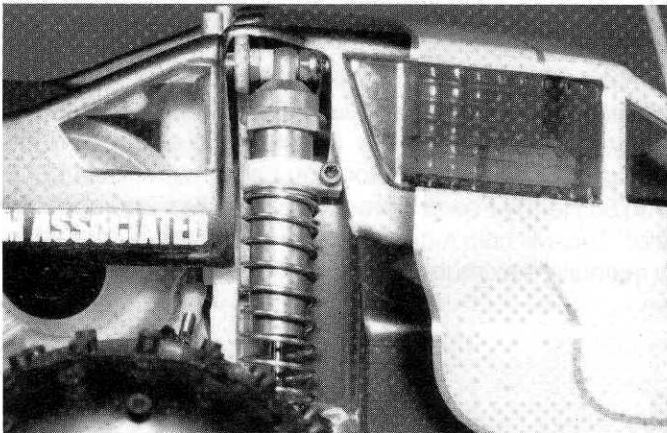

Fig. 161
□ **Fig. 161** Trim a little of the body and slip it on. Keep trimming a little at a time until it clears the shocks. Cut out the body mount hole and the two wing tube holes. **RACERS TIP:** Take a marking pen and mark the areas that you want to trim, then using an Xacto knife with a new blade score the lines you just marked on the body. You can then flex the body at the score lines and peel off the part you want to remove. When you have the body fitted, it's time to paint the body and wing. The body is painted on the inside and the wing is painted on the underside. There are 2 different ways to paint the body. By either brushing it on or spraying it on. The spray method will give you a more even finish but will cost more. The body is made of Lexan polycarbonate. In hobby shops, you can find special Lexan or polycarbonate paints made for these type bodies. This is the only kind of paint that you can use for brush application. One of the best brands of paint for this application is Pactra R/C Car Finish available in most hobby stores.